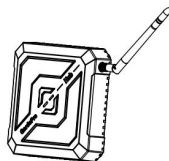

Figure 10
Step3: For optimal Wi-Fi performance, adjust the direction of the antenna. It is recommended to position the antenna at 45-degree angles (*Figure 10*).